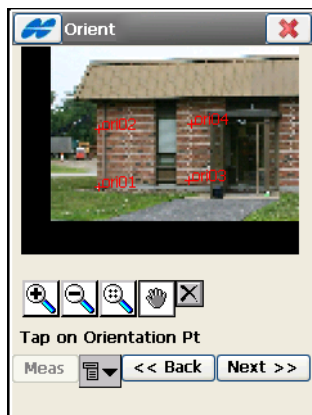

Figure 8-67. Calculate Image Orientation
- When four or more orientation points have been established, tap the **Next** button on the ***Orient*** screen (Figure 8-67 on page 8-64) to display the orientation results.